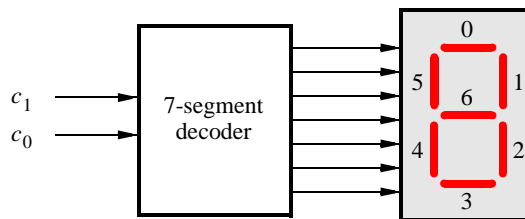

Figure 6. A 7-segment decoder.
Figure 6 shows a *7-segment* decoder module that has the two-bit-input c_1c_0 . This decoder produces seven outputs that are used to display a character on a 7-segment display. Table 1 lists the characters that should be displayed for each valuation of c_1c_0 . Three characters are included plus the ‘blank’ character, which is selected for code 11.
2. Create a Verilog module for the 7-segment decoder. Connect the c_1c_0 inputs to switches SW_{1-0} , and connect the outputs of the decoder to the $HEX0$ display on the DE1-SoC board. The segments in this display are called $HEX0_0, HEX0_1, \dots, HEX0_6$, corresponding to Figure 6. You should declare the 7-bit port